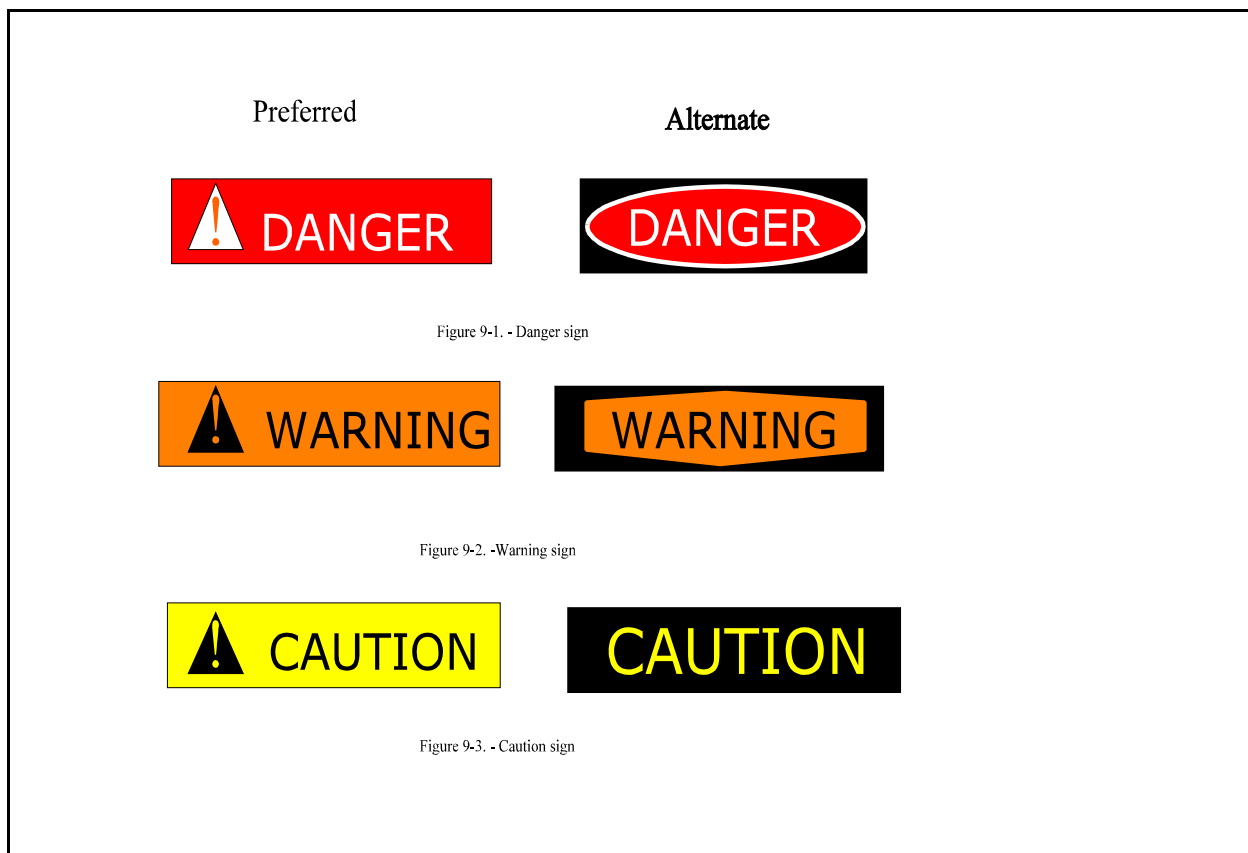

Figure 9-1.—Danger, warning, and caution signs.
- b. **Design.** As illustrated in figure 9-1, danger signs must have "DANGER" in white letters placed at the top of a rectangular safety sign with a red background. The safety alert symbol must precede "DANGER." The base of the symbol must be on the same horizontal line as the base of "DANGER." The safety alert symbol must be as high as or higher than "DANGER."
b. **Design.** As illustrated in figure 9-1, warning signs must have "WARNING" placed at the top of the sign in black letters on a rectangular orange background. The safety alert
c. **Alternative.** As an alternative, warning signs may have "WARNING" in black letters within a safety orange truncated diamond of a black rectangular background. Locate this distinctive panel in the uppermost portion of the sign. See figure 9-1. Do not use any other word or symbol within this distinctive shape or color arrangement. The message panel must be in black letters on a white background or white letters on a black background. The message may, as an alternative, be black letters on a safety orange background.
b. **Design.** As illustrated in figure 9-1, caution signs must have "CAUTION" placed at the top of the sign in black letters on a rectangular yellow background. The safety alert symbol must precede "CAUTION" if the hazard is a potential personal injury hazard. The base of the symbol must be on the same horizontal line as the base of "CAUTION." The safety alert symbol must be as high as or higher than "CAUTION."
c. **Alternative.** As an alternative, caution signs may have "CAUTION" in safety yellow letters within a black rectangular background located in the uppermost portion of the sign. See figure 9-1. Do not use any other signal word or symbol with this distinctive color or signal shape arrangement. Caution signs used to indicate accidents of property damage only do not include the safety alert symbol. These signs have "CAUTION" in black letters on a rectangular safety yellow background. The message panel must be in black letters on a white background or white letters on a black background. As an alternative, the message may be black letters on a safety yellow background.